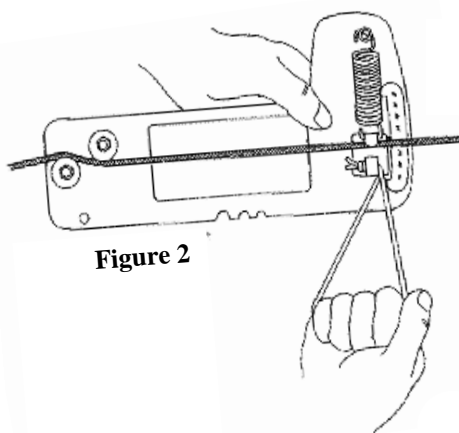

Figure 2
2. With the right hand pull the lanyard and extend the spring until the hook on the nylon slider can be hooked on to the cable as shown in **Figure 2**.